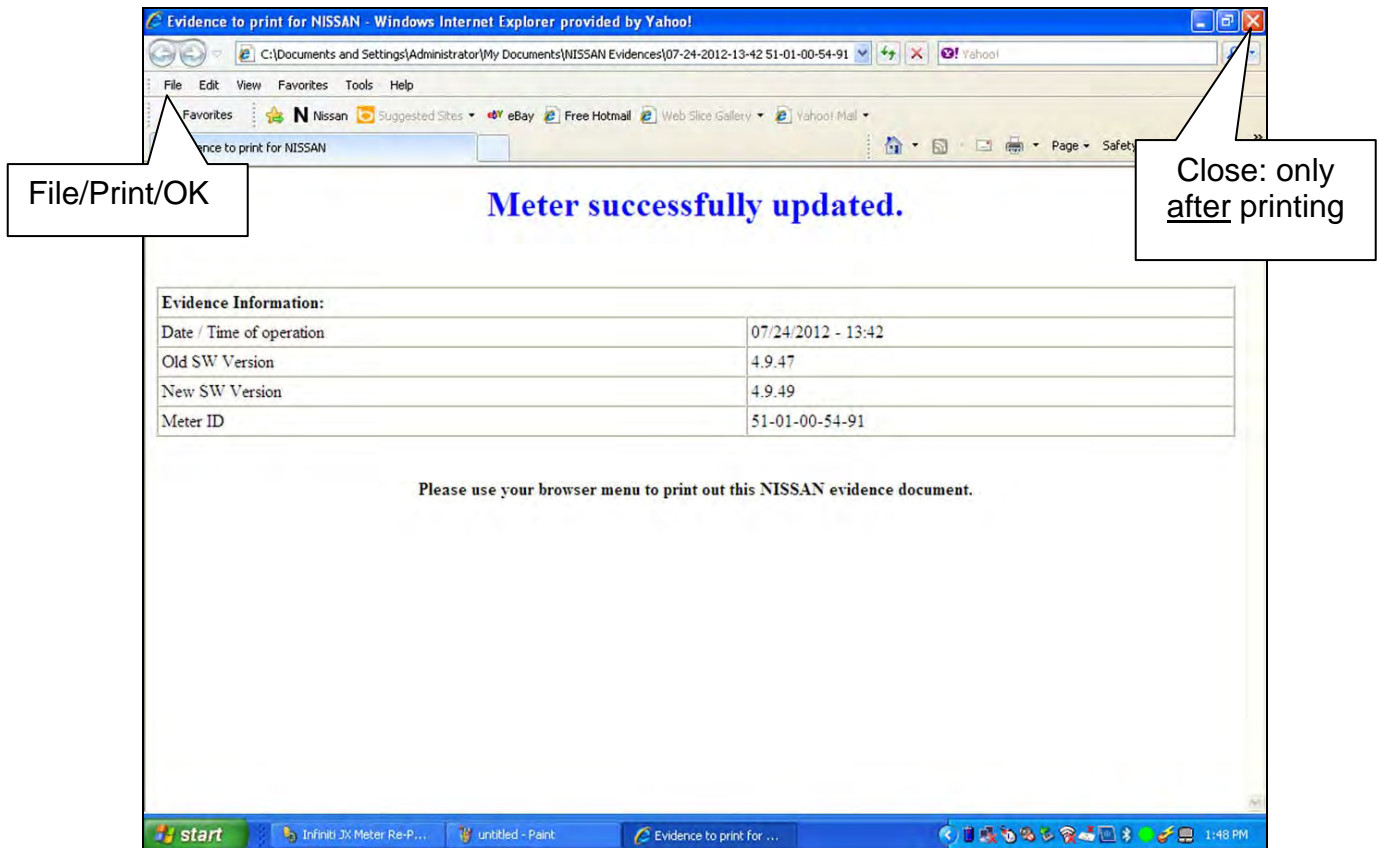

Figure 6
14. For warranty documentation, print a copy of the screen in Figure 6 and attach it to the repair order.